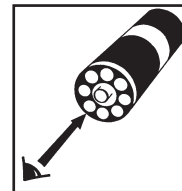

Figure 2
5. Obtain a test result by gently placing the ampoule, flat end first, into the comparator. Hold the comparator up toward a source of light and view from the bottom. Rotate the comparator until the best color match is found (fig. 2).